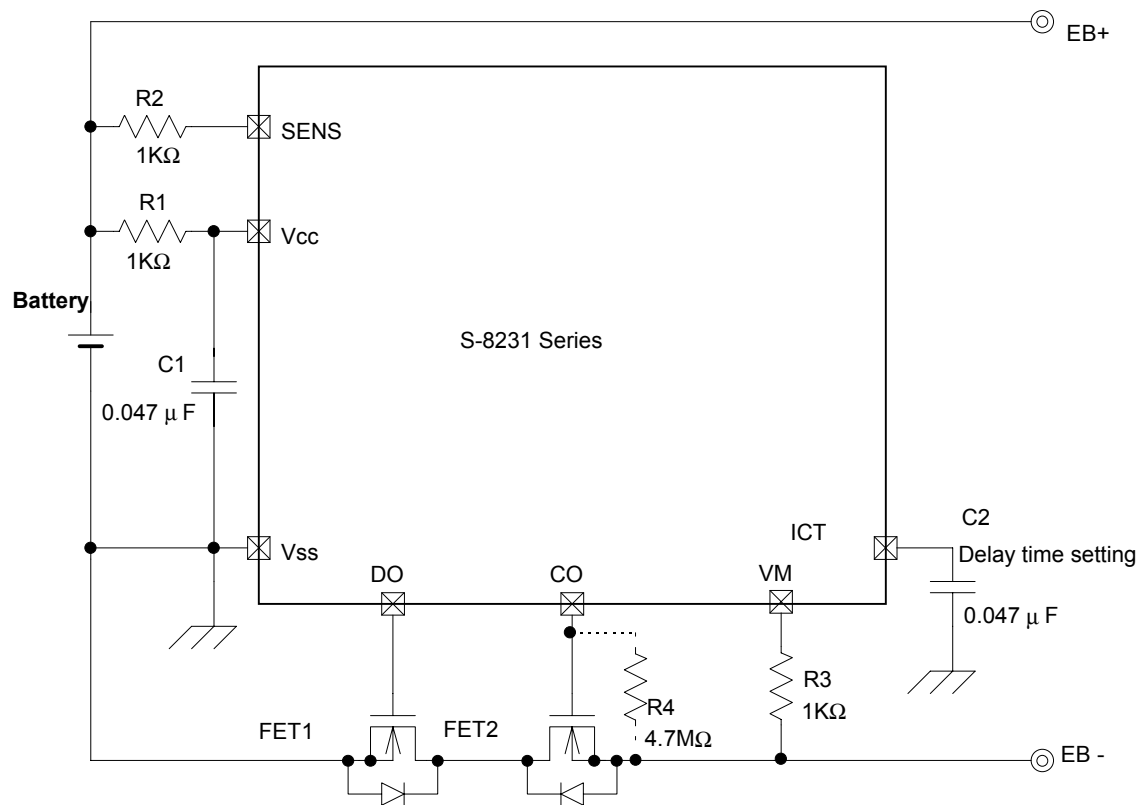

Figure 5 Circuit
4.7MΩ resistor is required between CO terminal and EB- terminal. Please refer figure 5.